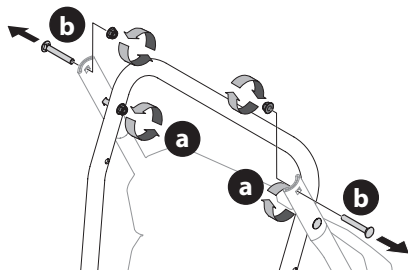
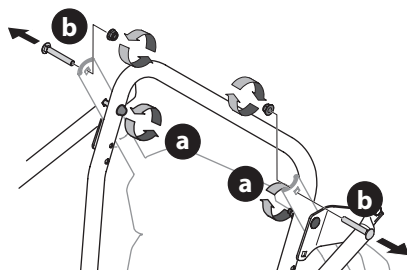

Figure 1
Figure 2
2. Loosen the top two nuts (a) securing the upper and lower handle and remove the two carriage bolts (b) from the upper handle and set aside as shown in Figure 1 or Figure 2 for models with side supports.